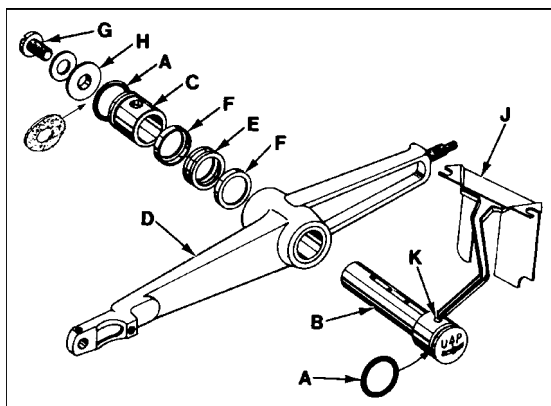

Fig 17
1. Install "O" rings (A, Fig. 17) onto needle lever stud (B) and thrust collar (C).
2. With needle lever (D) in machine and positioned properly; insert stud (B) through hole in needle lever until its shoulder contacts the needle lever and the word "UP" on stud is in the upright position. While making sure no binding exists in the needle bar link, secure stud (B) with the front set screw in top of machine bed.
3. Install temper load ring (E) and compression cups (F) onto stud (B), then push ring and cups through opening in machine bed.
4. Install thrust collar (C) onto stud (B) being careful not to damage "O" ring. Compress components together by tightening screw (G) until washer (H) bottoms against stud (B). Secure stud (B) in position using the rear set screw in top of bed.